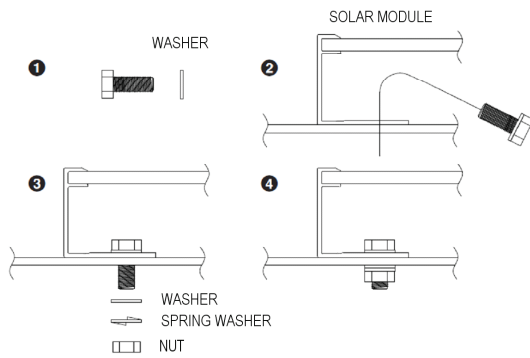
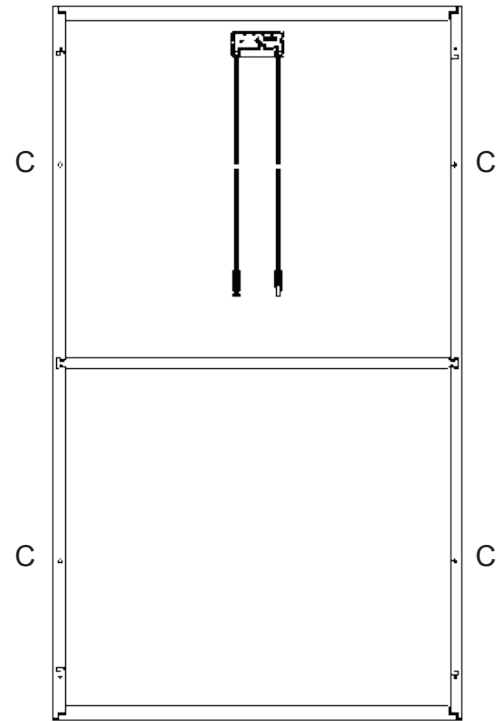

Figure 6
Figure 7
Mounting Using Frame Bolt Holes (Figures 6 & 7)
The modules may be fastened to a support using the bolt holes in the bottom of the frame at location "C", as shown in Figure 7 (back view of the module) and Figure 6 (mounting detail). The module should be fastened with four (4) M8 (5/16") bolts. Recommended torque value is 12.5 Nm. For your reference, please use the washer specified as below for the minimum requirement: